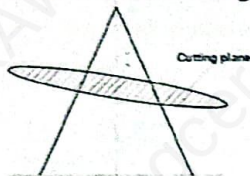

Figure 2
18. Identify the geometric figure created when a right circular cone is cut slantingly as illustrated in figure 2.